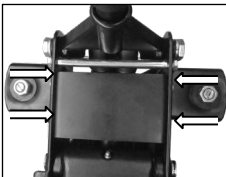

fig 9.
2. Remove the 4 screws fixing the pump cover to the jack and remove the pump cover [fig.9].
With Head Cap (1) fully lowered & the Jack on level ground, remove the 4 screws and lift the pump cover (fig 9.)